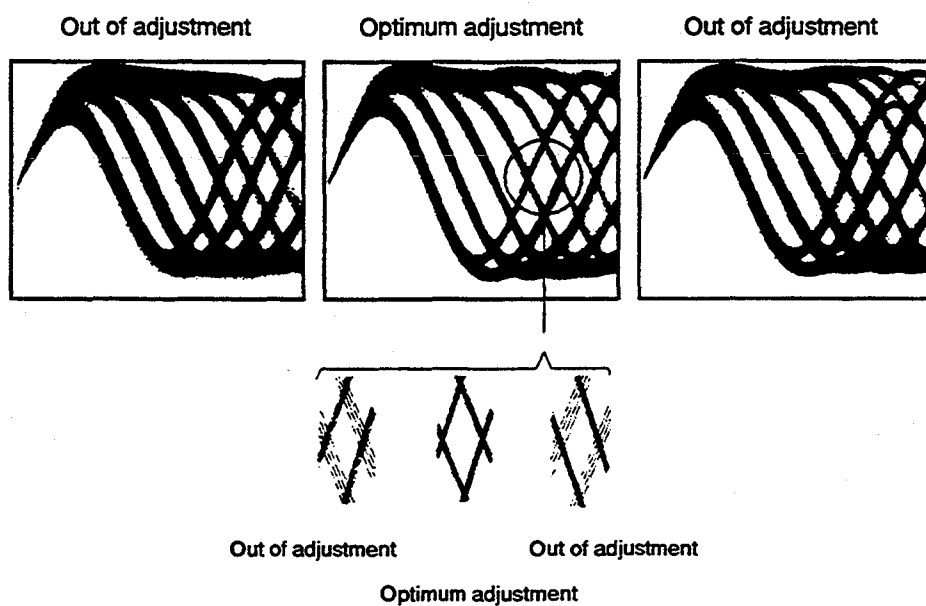

Fig. 6-11 Eye Pattern
3. Next, adjust the tangential tilt adjustment screw with an M3 mm hexagonal wrench so that the eye pattern (the diamond shape at the center of the RF signal) can be seen the most clearly (Fig. 6-11).